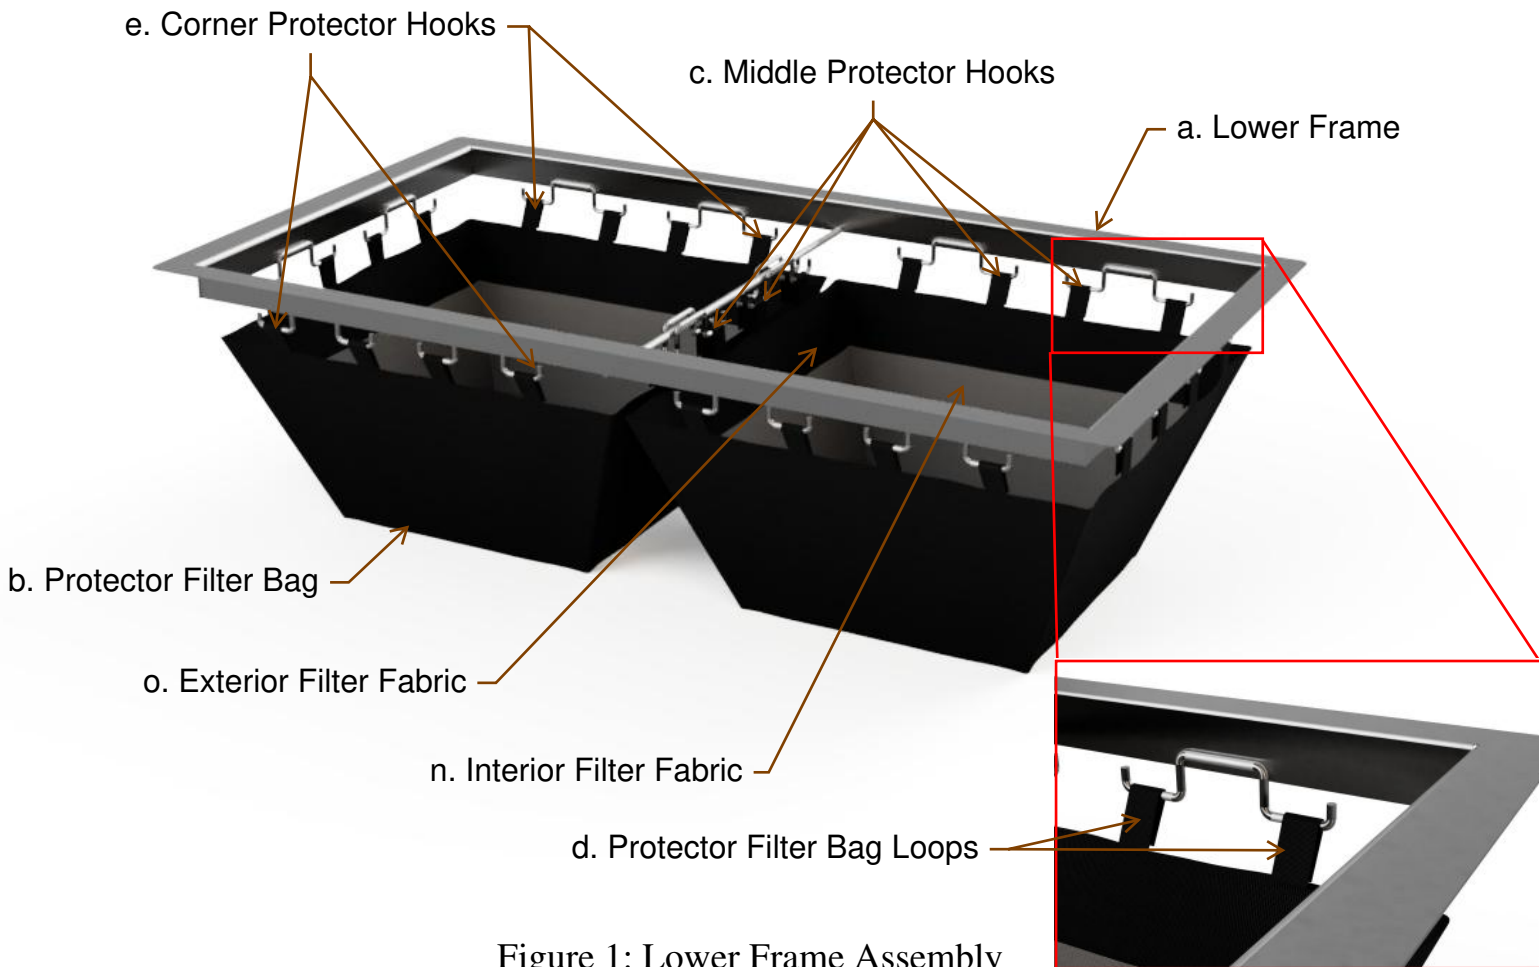

Figure 1: Lower Frame Assembly
2.0 Assembling the Lower Frame Assembly (see Figure 1):